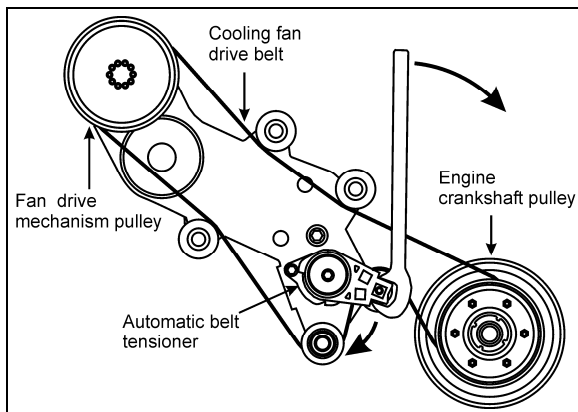

FIGURE 25: DRIVE BELT ROUTING
- Wrap the new drive belt around the fan drive mechanism pulley, the idlers and the automatic tensioner idler as shown on figure 25.
- Using a  $\frac{1}{2}$ " breaker bar or a 1  $\frac{1}{2}$ " open end wrench, rotate the automatic tensioner in clockwise direction to relieve tension on the belt and hold the tensioner in that position (Fig. 25).